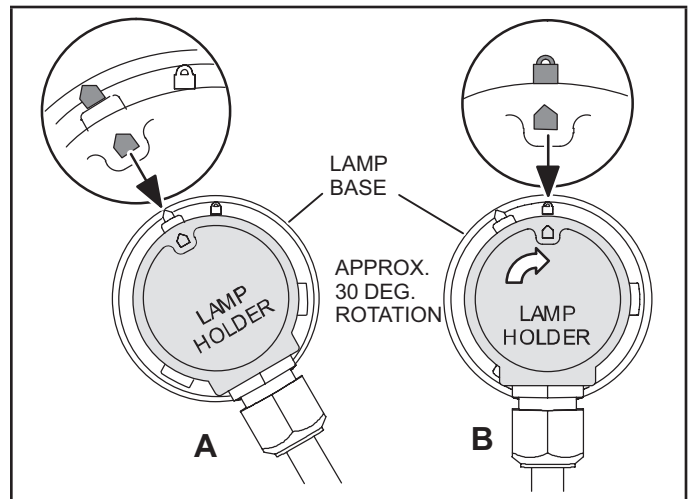

FIGURE 10. Locking Lamp in Place
- 5 - Align arrow on lamp holder with arrow on lamp base. Insert lamp holder into base (see A in figure 10).
- 6 - Twist to align lamp holder arrow with lock symbol (see B in figure 10).